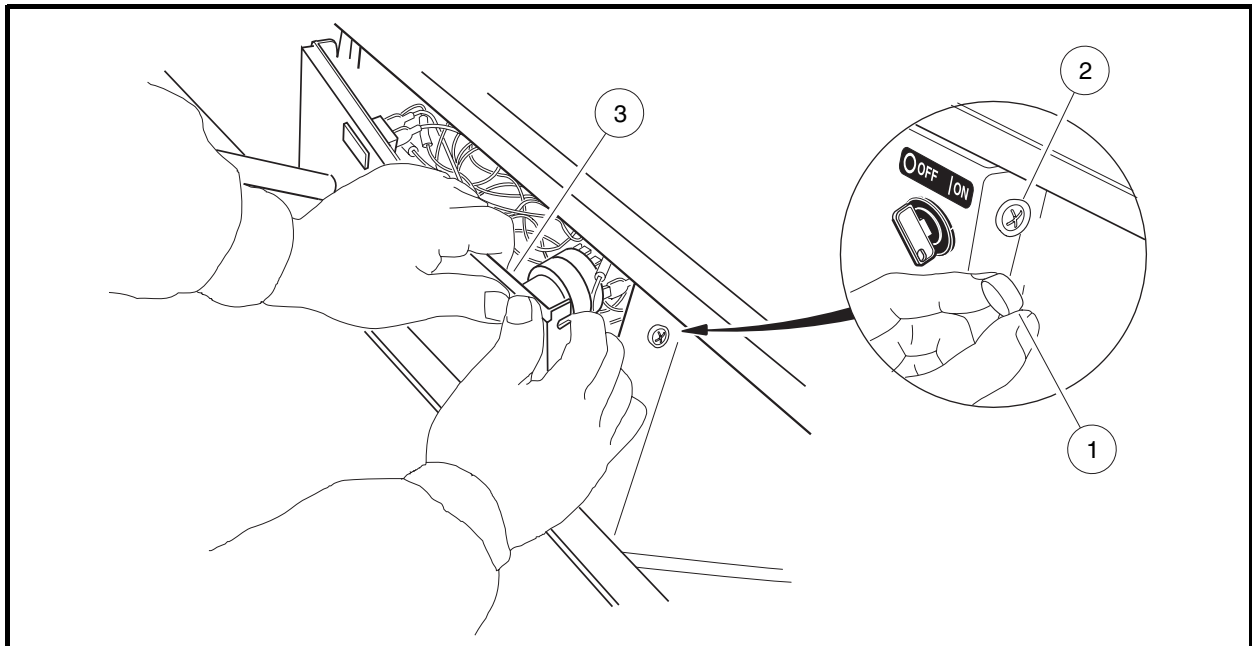

Figure 12-1 Dash Removal
- 2.1. Remove the plastic cap (1) covering the mounting screw (2) on each side of the center dash panel (3) (**Figure 12-1, Page 12-1**).
NOTE: Bending the top right corner of the center dash inward during removal will prevent the terminals (7) on the back of the key switch from touching the metal frame around the dash (**Figure 12-1, Page 12-1**).